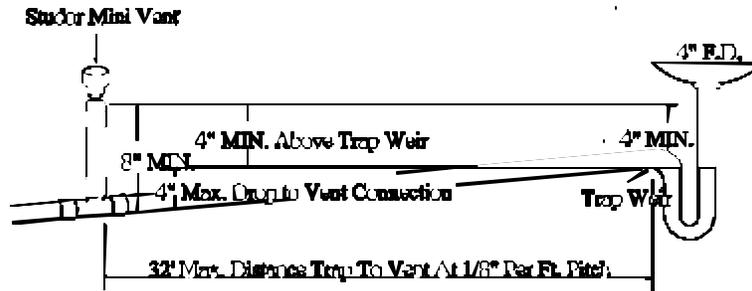

Figure 1, AAV 4 inch min. above highest trap weir
- 4 inches above the weir of the highest trap being served, Figures 1 and 2, page 13;